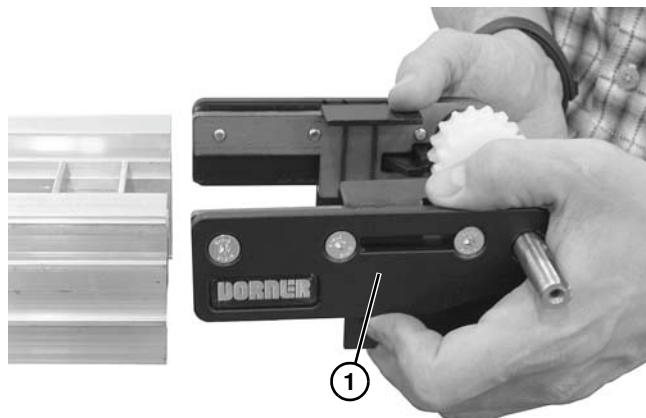

Figure 50
5. Remove end drive (**Figure 50, item 1**) from conveyor.